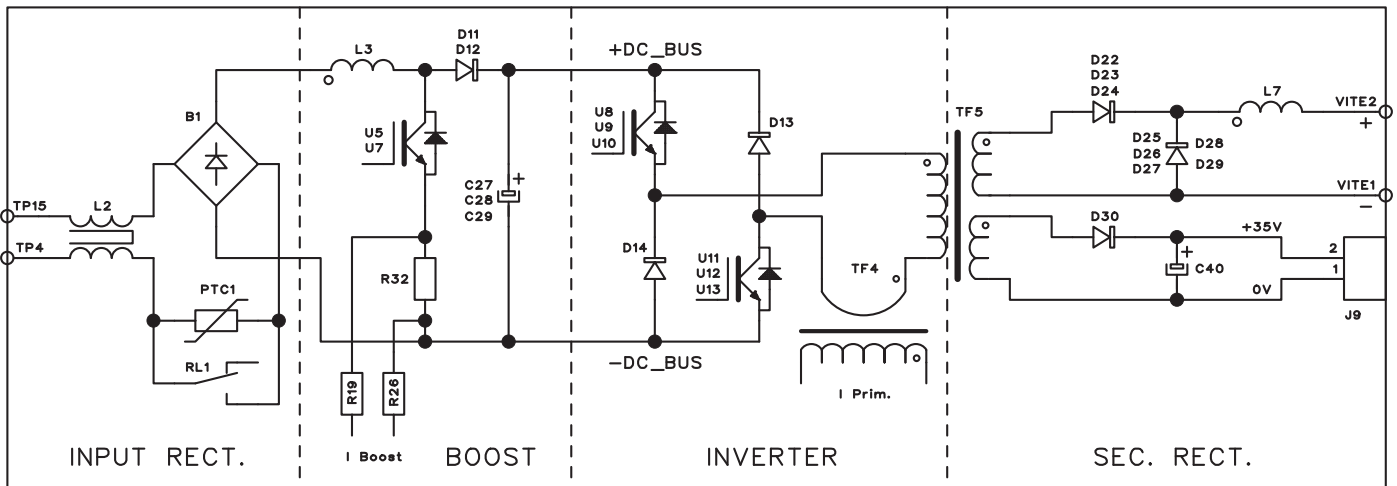

Fig. 2.3.1
More precisely in the power board (34) they can be identified (Fig. 2.3.1):
- the igbt inverter, that generates the square wave alternated voltage for the TF5 power transformer, installed on the power board (34);
POWER SUPPLY TEST (Fig. 2.3.1, 2.3.2).